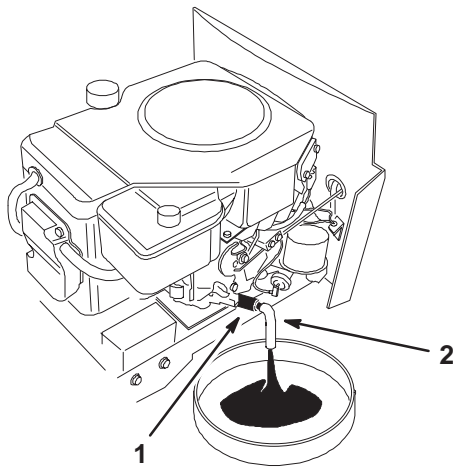

Figure 16
4. Locate a piece of 1/2 inch (13 mm) tubing or hose long enough to extend past the frame. Slide the tubing or drain hose over the drain valve (Fig. 16).
5. Place a pan below the drain hose. Rotate the oil drain valve to allow the oil to drain (Fig. 16).
7. Remove the drain hose (Fig. 16).